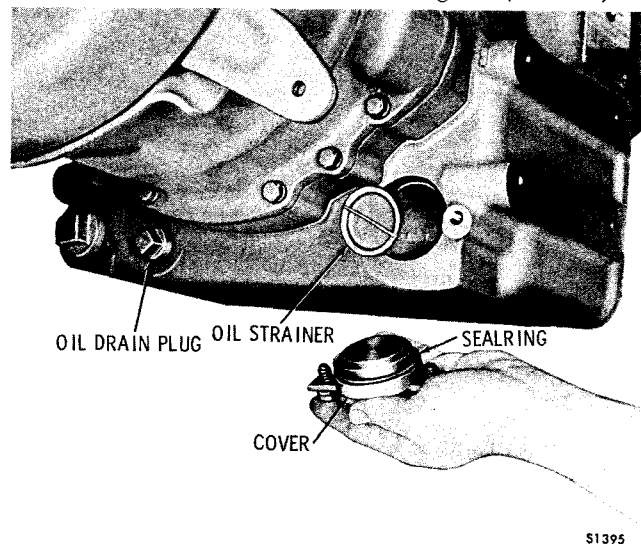

Fig. 5-3. Removing oil strainer and gasket (-3 model)
(2) On -3 model transmissions, remove two bolts and lockwashers which retain the strainer cover. Remove the cover and sealring (fig. 5-3). Remove the strainer. Remove the oil drain plug.